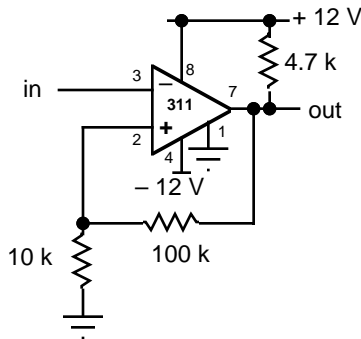

Fig 10.3
Calculate the trip points of the circuit in Fig. 10.3. Build it and see if it operates like it should. Put a sine wave on the input and note the "hysteresis." Also note that the triggering stops for sine waves below certain amplitudes.
1. Find the trip points of the Schmitt trigger in Fig. 10.3.